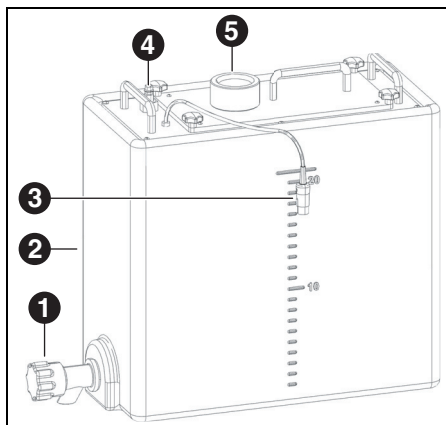
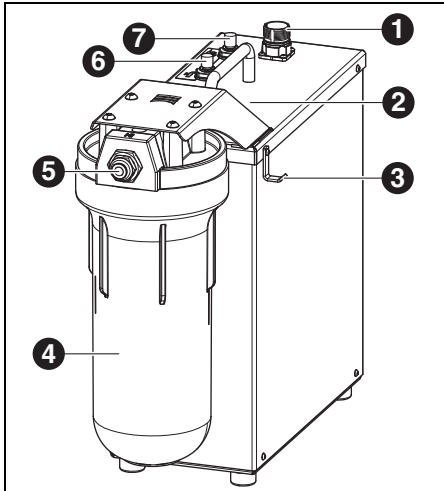

Fig. 5 Tank connections
Fig. 6
- ▷ Connect the control cable to the control interface for the pump unit on the rear side of the processing machine ([9] in Fig. 3) and to the pump unit ([1] in Fig. 6).
- ▷ Connect interface ([3] in Fig. 5) with pump unit ([2] in Fig. 6).
- ▷ Connect the connection to pump unit ([4] in Fig. 5) to the C/L inlet ([5] in Fig. 6).